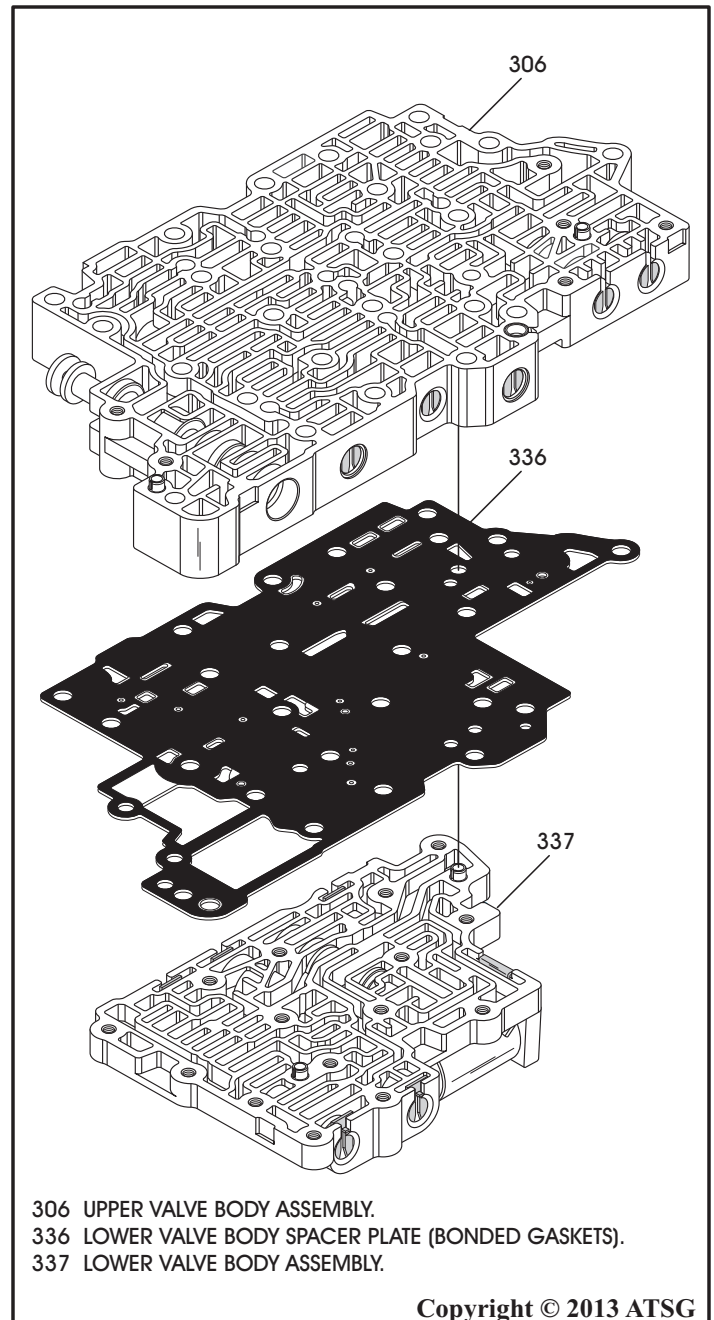

Figure 173
7. Remove upper valve body assembly, as shown in Figure 173.
8. Remove the lower valve body spacer plate, as shown in Figure 173.